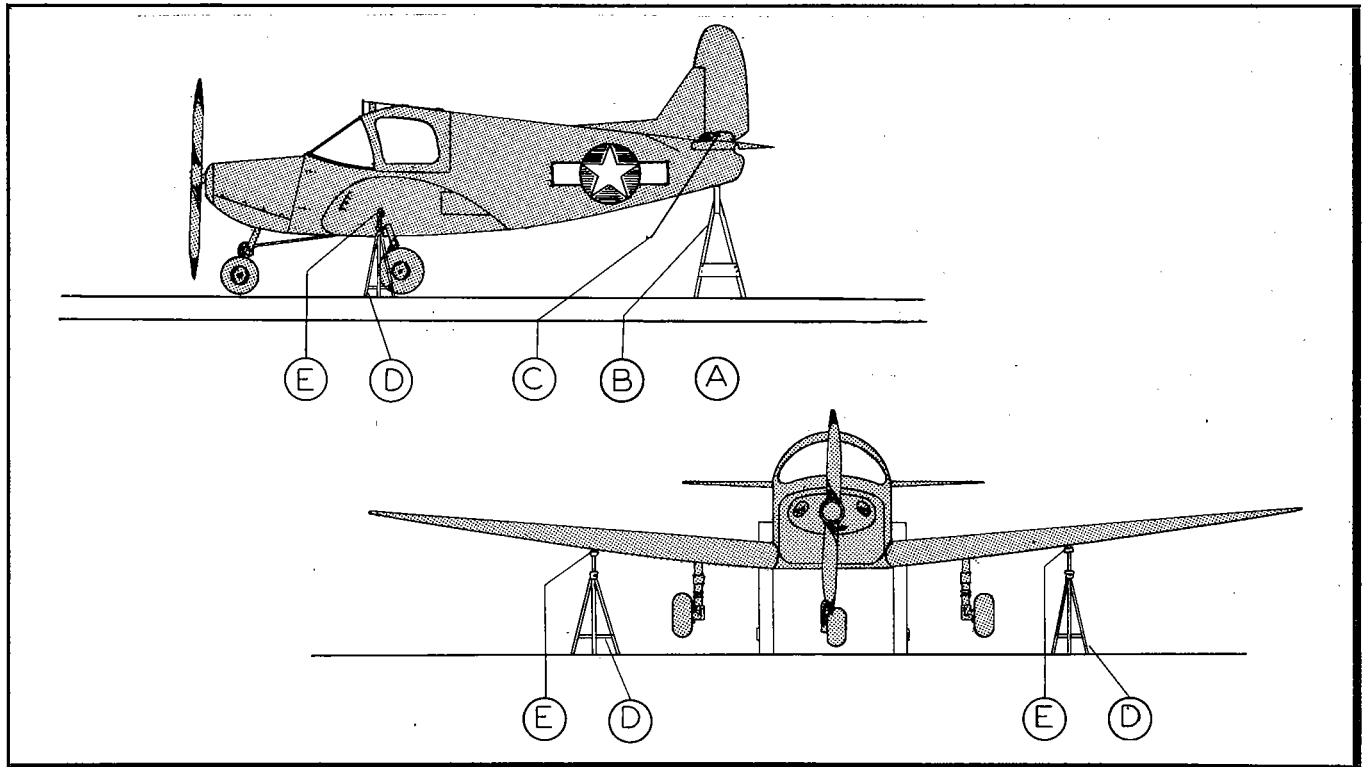

Figure 22—Jacking Diagram
(1) NOSE WHEEL.—To raise nose wheel only, place chocks in front of and behind main wheels and place a low padded stand or pad the floor beneath the friction shoe at the back of the fuselage. Pull tail of ship down until it rests on padded stand or padded floor. Weight tail down with about 180 pounds of lead or sand bags placed on the horizontal stabilizer on each side of the rudder as close as possible to the fuselage.
(2) MAIN GEARS.—To raise main gears, place a tall padded stand under friction shoe at the end of the fuselage and weight tail as directed in the preceding paragraph. The fuselage should rest on a padded stand in flight position. The airplane may be raised with jacks placed under the jacking points attached to the wing structure at station 91. Jack both sides simultaneously to prevent the airplane from shifting on its supports. Do not let airplane rest on jacks for extended periods of time or while it is unattended. (See figure 22.)